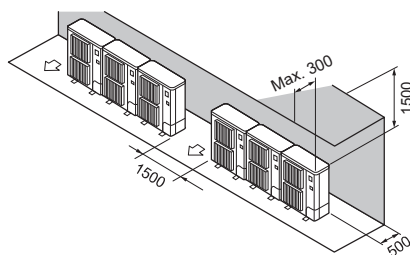

Fig. 2-14
- ② Obstacles at rear and above only (Fig. 2-14)